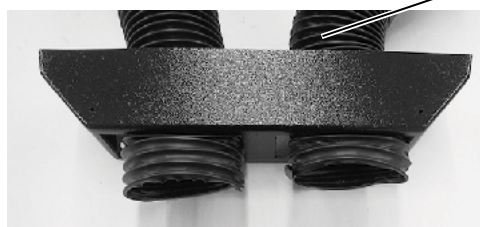

**Figure 1**
1. Place the under dash center louver bezel under the dash in the desired location (See Photo 1 and Figure 1, below). Using the louver bezel as a template, mark and drill (2) 1/8" mounting holes into the bottom lip of the dash (See Figure 1, below).
2. Secure the louver bezel under the dash using (2) #8 x 1/2" pan head screws (See Figure 1, below).
3. Insert (2) lengths of 2 1/2" duct hose (See Figure 1, Page 20, for duct hose lengths) through the back of the louver bezel (See Photo 2, below).
4. Attach the (2) duct hoses to the hose adapters on the (2) louvers (See Photos 3 and 4, below).
5. Insert the (2) louvers into the under dash center louver bezel and push until fully secured (See Photo 5, below).